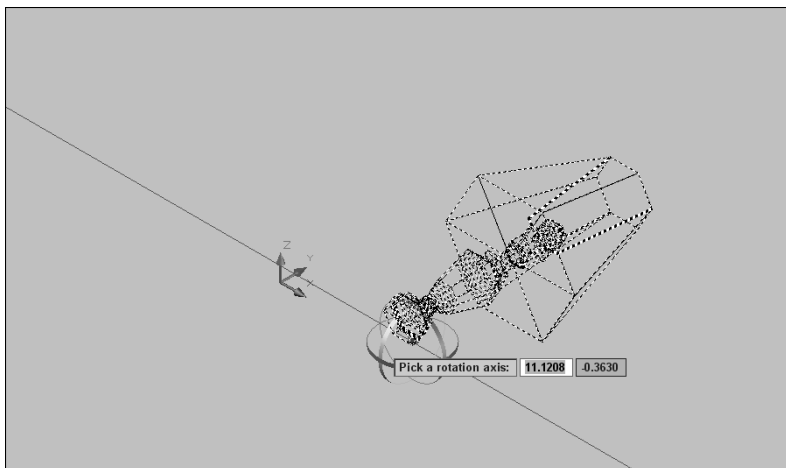

**Figure 24-37:** The rotate grip tools let you constrain rotation to any axis in 3D space.
2. Select objects. The rotate grip tool appears, as shown in Figure 24-37.
4. At the **Pick a rotation axis:** prompt, hover the cursor over the ribbon that matches the axis around which you want to rotate. It turns yellow and you see an axis line, as shown in Figure 24-37. Click the yellow ribbon.